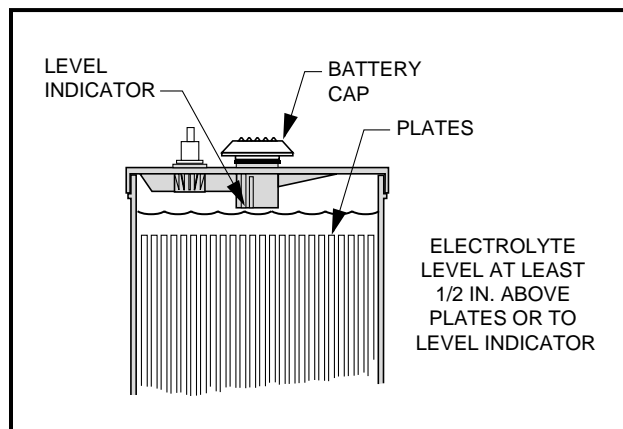

Figure 10 Battery Electrolyte Level
- The electrolyte level in the batteries should be checked weekly (**see Figure 10, Page 24, for proper level**). Add water only after charging unless the electrolyte level is below the top of the plates. In this case, add just enough water to cover the plates, charge and then check the level again. Never charge batteries if plates are exposed above electrolyte level. For best battery life, use only distilled water.